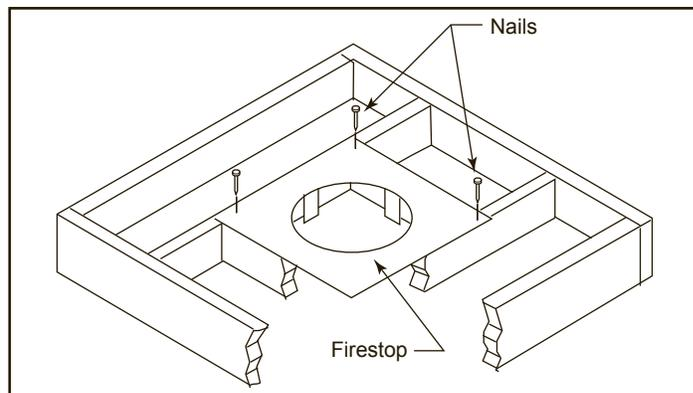
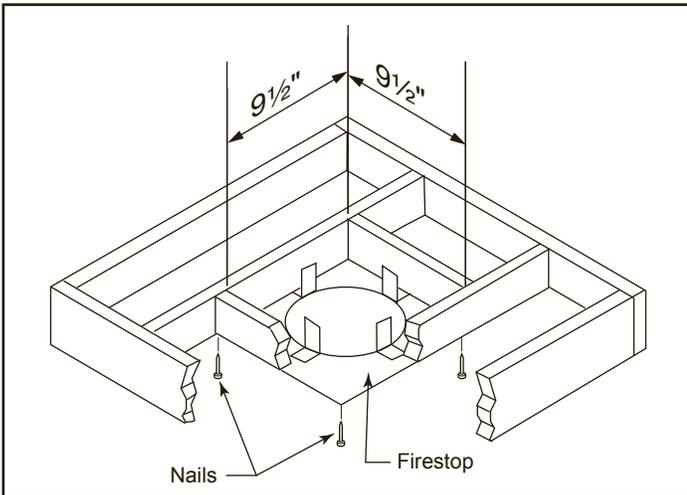
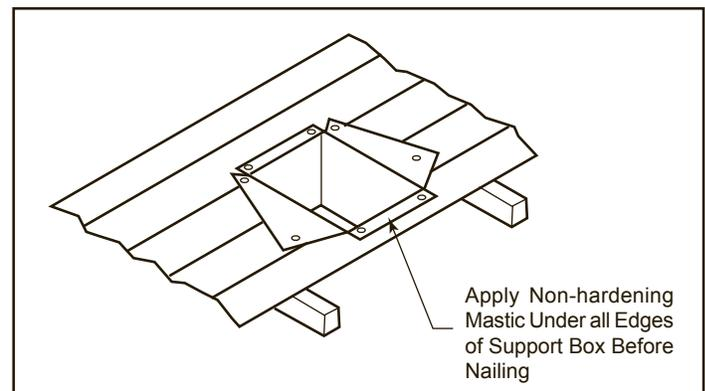

Figure 23 - If area above is a room, install firestop above framed hole as shown
Figure 24 - If area above is not a room, install firestop below framed hole as shown
Figure 26 - Installed Cathedral Ceiling Support Box
1. Cut a 9½" (241 mm) square hole in the ceiling using the locating hole as a center point. The opening should be framed to 9½" x 9½" (241 x 241 mm) inside dimensions as shown in Figure 24 using framing lumber the same size as the ceiling joist. If the area above the ceiling is an insulated ceiling or a room, nail firestop from the top side. This prevents loose insulation from falling into the required clearance space. Figure 23. Otherwise, install firestop below the framed hole. The firestop should be installed with no less than three nails per side. Figure 26.
4. Using tin snips, cut the support box from the top corners down to the roofline and fold the resulting flaps over the roof sheathing. Figure 26. Apply a bead of non-hardening mastic around the top edges of the support box to make a seal between the box and the roof. Nail in place with roofing nails. Remove any combustible material that might be inside the support box.